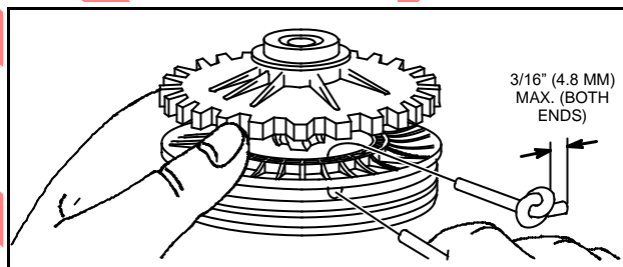

Fig. 629 – STARTING ROPE IN PULLEY
2. Tie a small knot, heat seal and pull tight into recess in rope pulley. Rope must not interfere with gear motion, Fig. 629.